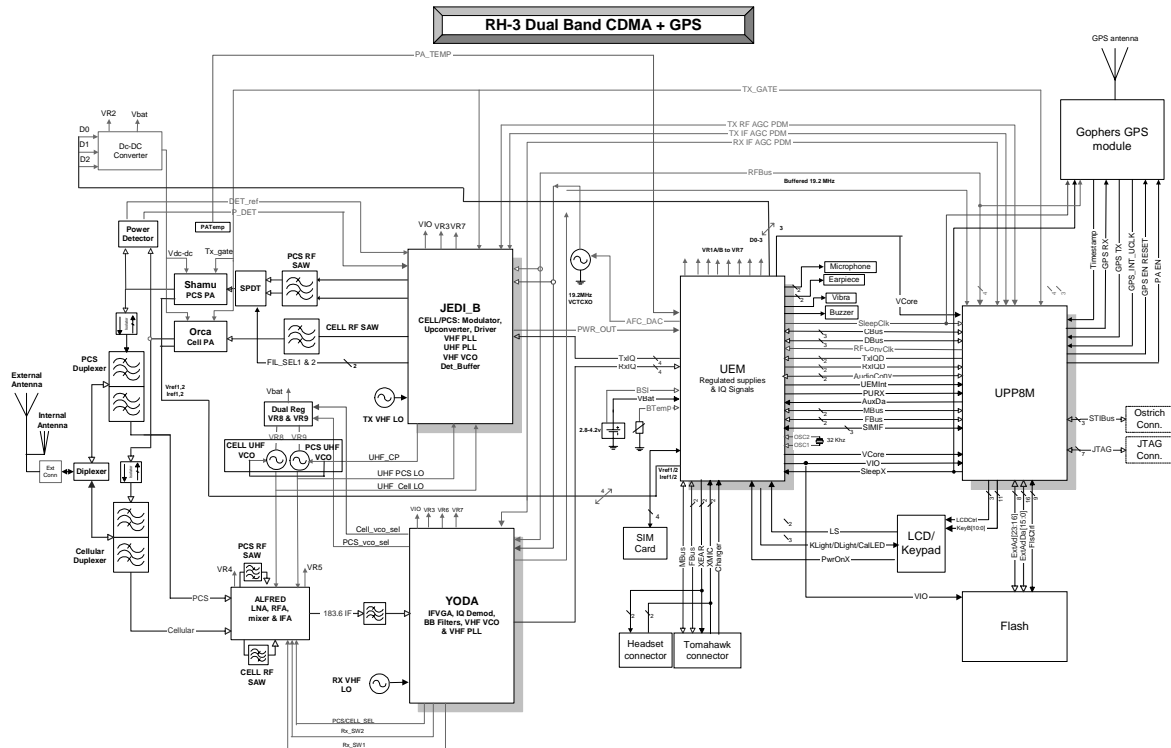

Figure 1: RH-3/RH-3P Top-level Diagram
- When phone is connected to the prommer, the prommer will first set BSI to "1" and then uses FBUSRX for writing and MBUS for clocking. The prommer will indicate to UEM that flash programming will take place by writing 8-bit password to UEM after BSI is set to high. After the password is checked, BSI is set back to "0". See Figure 1 on page 6.